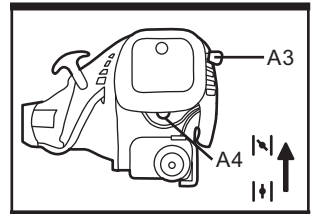
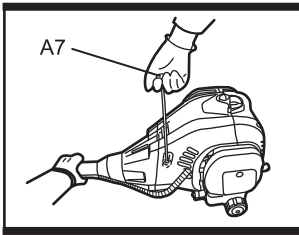

Fig. 13c
Fig. 13e
- d). Pull the recoil starter handle (A7) firmly; repeat until the engine starts. (See Fig. 13e) depress the primer (A4) 6 times until fuel is visible. (See Fig. 13c)
- d). Pull the recoil starter handle (A7) firmly; repeat until the engine starts. (See Fig. 13e)